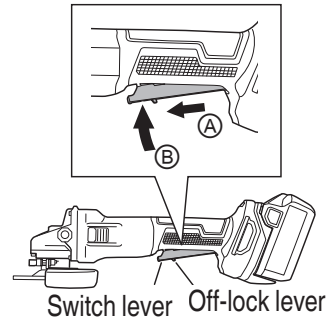

Fig. 15
To switch on, slide the off-lock lever in the direction of (A) and press the switch lever (2 locations) in the direction of (B) as shown in Fig. 15. Release the switch lever to switch off.